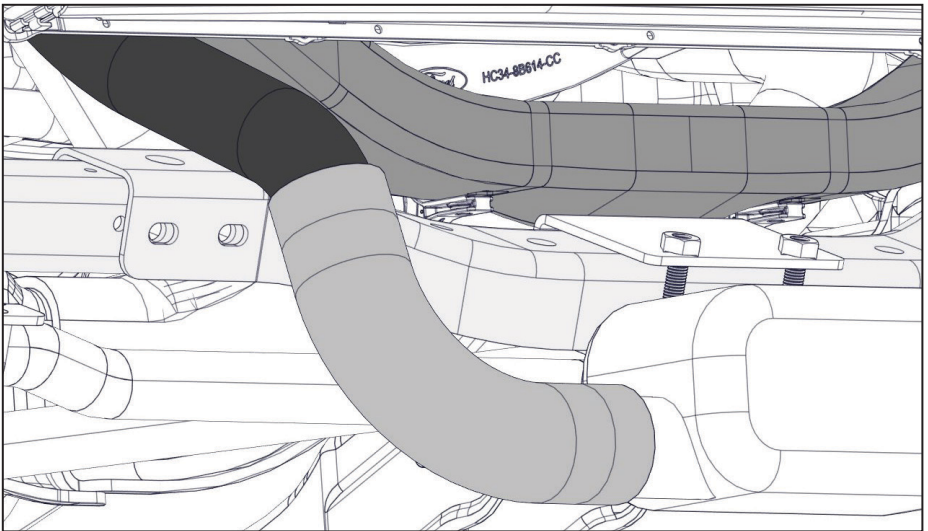

Figure 7 — Install radiator hoses and tube connectors
- ☐ Connect passenger and driver side radiator hoses, and tubes to the VMAC cooler. Route the steel tube connectors between the cross member and the radiator support (Figure 7).